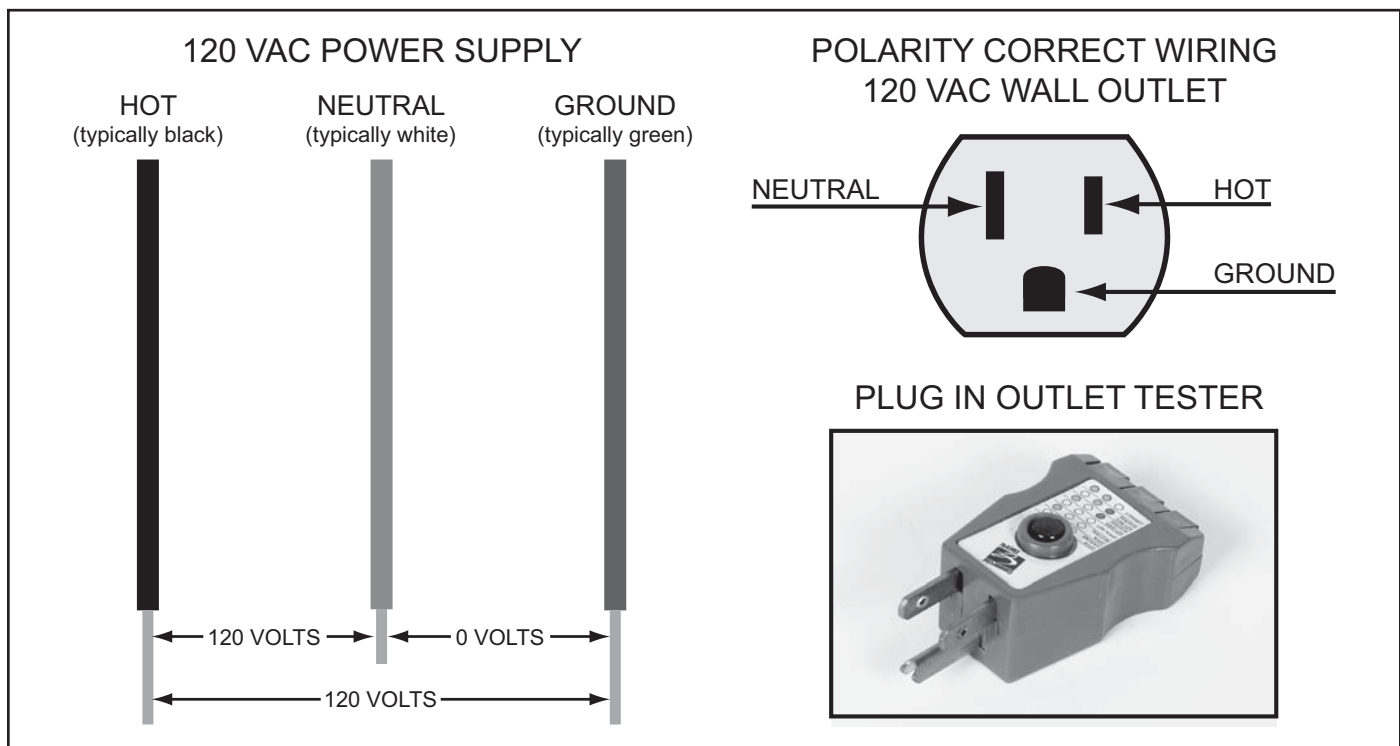

Figure 2
- 120 VAC plug in outlet tester, see Figure 2 on page 6
The water heaters covered in this manual **MUST BE** properly grounded and the polarity of the power supply **MUST BE** correct. Correct polarity wiring for a standard 120 VAC residential wall outlet is shown in Figure 2 below, note the downward orientation of the ground connection socket.
A "Reversed Polarity" condition occurs when the hot and neutral wires are connected in reverse from what is shown in Figure 2. If the power supply polarity is reversed it will cause **AC Reversed** fault conditions and Control System lock outs. If the water heater is not grounded properly it will cause **Ignition Failure** fault conditions and Control System lock outs, see Flame Sensor on page 18 and the Power Supply Test below.
Proper grounding and polarity can be verified with an AC volt meter by taking three voltage readings at the wall outlet being used or the power supply wiring inside the water heater's 120 VAC junction box. Inexpensive plug in outlet testers, available at most home centers and hardware stores, can be used to quickly verify proper grounding and correct polarity at a 120 VAC wall outlet, see Figure 2 above.